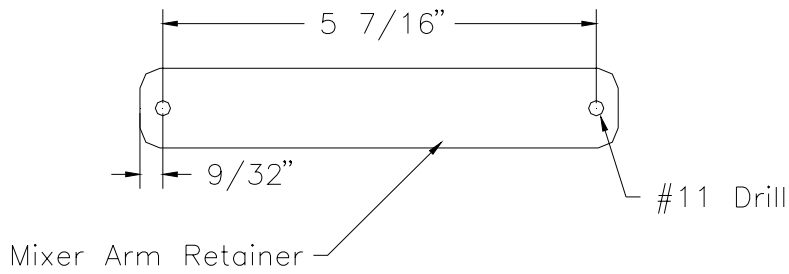

Figure 20.5.13
20) Drill two #11 holes into one 6" retainer. Figure 20.5.13.